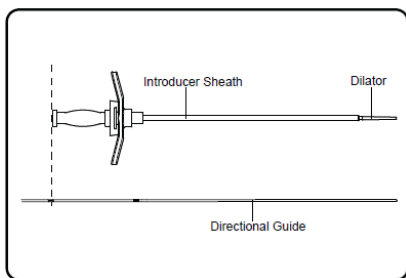

Figure 10. Align the dilator sheath hub with the appropriate mark on the directional guide
5. Hold the directional guide in place at the incision. Place the dilator and introducer sheath over the directional guide and advance them into the foramen. The third most proximal depth marker on the directional guide should be aligned with the top of the dilator (**Figure 10**). If available, confirm with fluoroscopy that the introducer sheath radiopaque marker is $1/2$ - $2/3^{\text{rd}}$ the way through the sacral plate